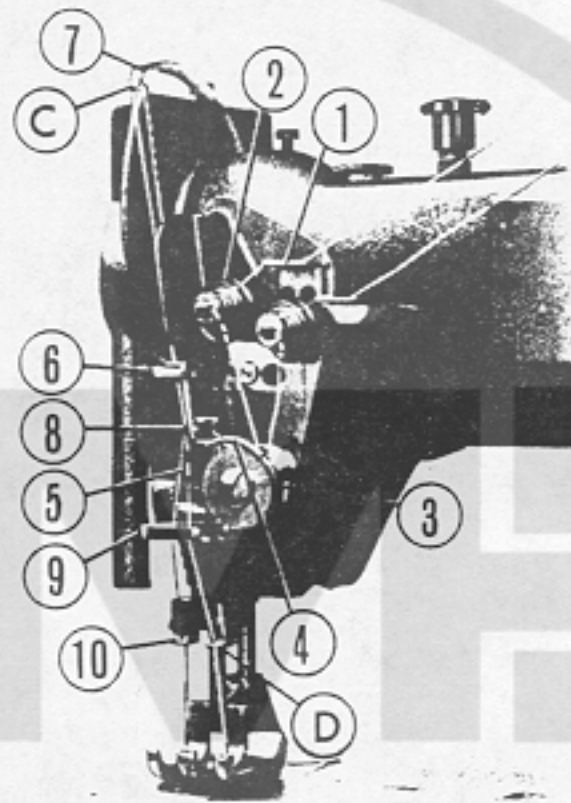

Fig. 9
10. THREADING THE NEEDLES (Fig. 9)
TO THREAD THE LEFT-HAND NEEDLE, pass the thread from the left thread spool of the spool stand through the thread guide at the top left of the spool stand, through the eyelet of the needle thread guide pin at the top of the arm from the opposite side towards you and pass it through the eyelet just below from right to left. Then pass it **through** the 3 holes of the 3-hole thread eyelet ①, Fig. 9, catch it on the left tension disc ② from above, then wind it once around the groove of the thread guide on the opposite side from left and catch it on top of the thread controller disc ③ and draw it downwards.